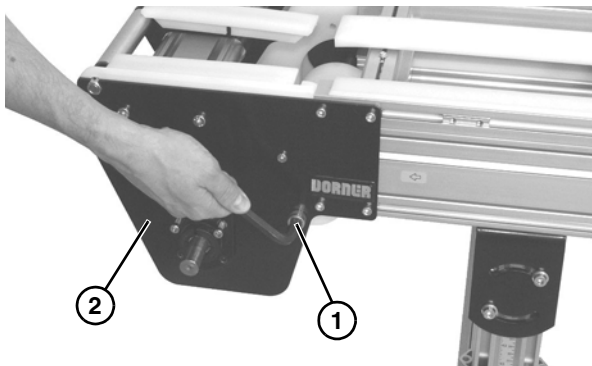

Figure 30
2. Remove socket head bolt (**Figure 30, item 1**) on each side of drive tail assembly (**Figure 30, item 2**).